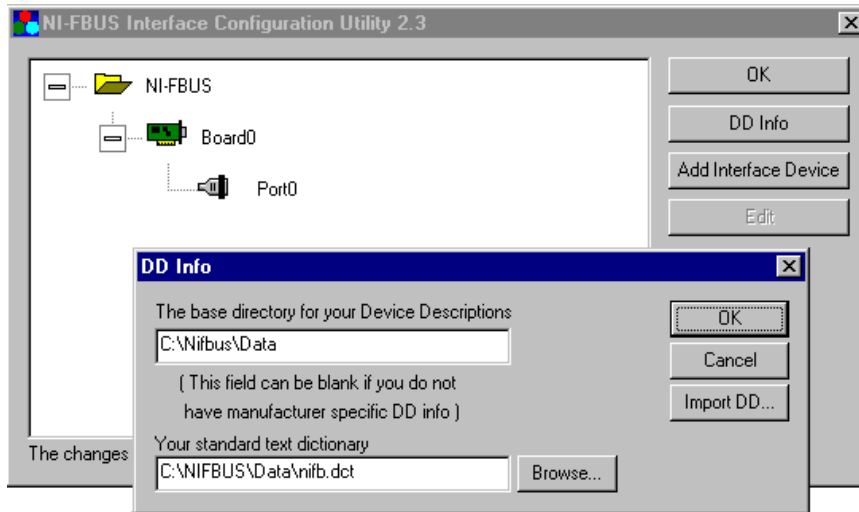

Figure 10-3. NI-FBUS Interface Configuration Utility DD Info Dialog Box
- Step 7:** From the DD Info dialog box, shown in figure 10-3, rename the base directory from C:\Nifbus\Data to the directory you created in the DD Info Dialog Box. (For example, C:\DD)